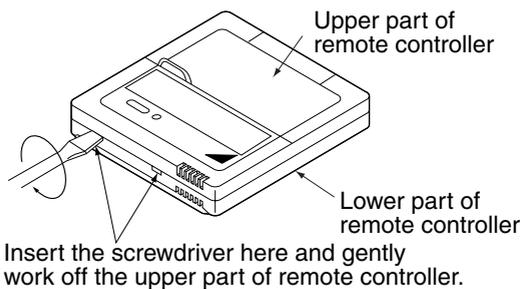

Fig. 34
- Insert a \ominus screwdriver into the recess between the upper and lower parts of remote controller and, working from the 2 positions, pry off the upper part. (Refer to Fig. 34)